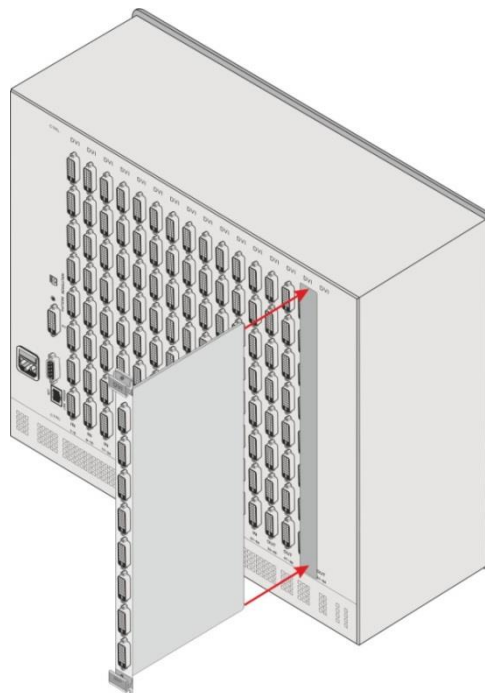

Figure 17: Inserting the Card into a Slot
**To install an input / output card as shown in Figure 17:**